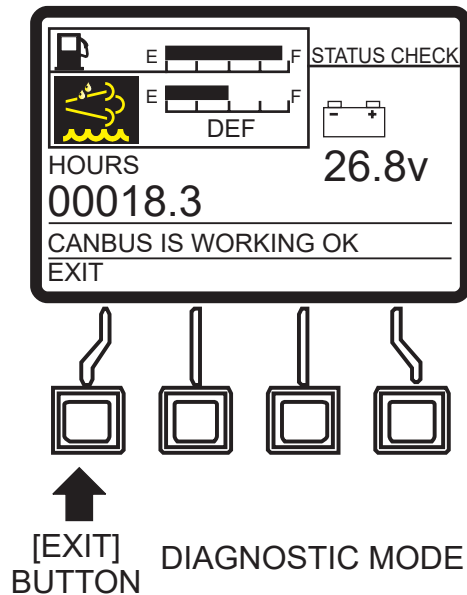

Figure 90. Status Check Screen (Diagnostic Mode)
2. Exit the Status Check Screen by pressing the **[EXIT]** button (Figure 90).